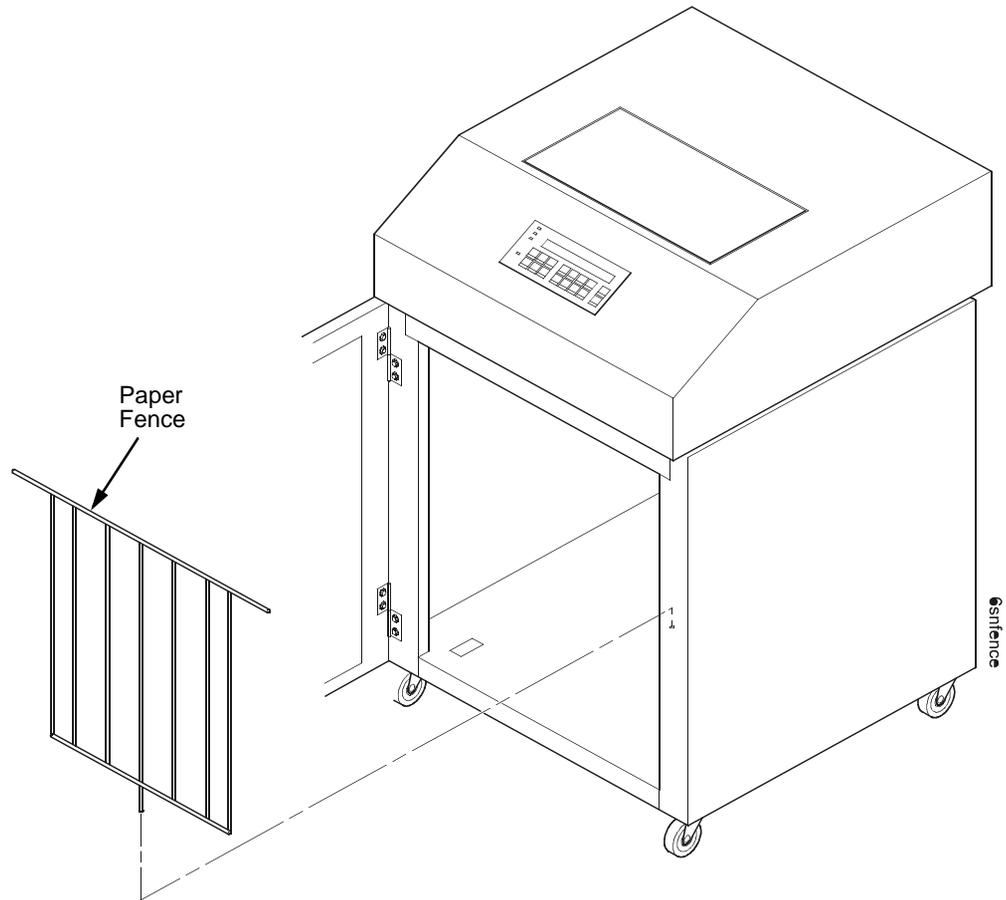

Figure 97. Install the Paper Fence
38. Install the paper fence. (Figure 97.)